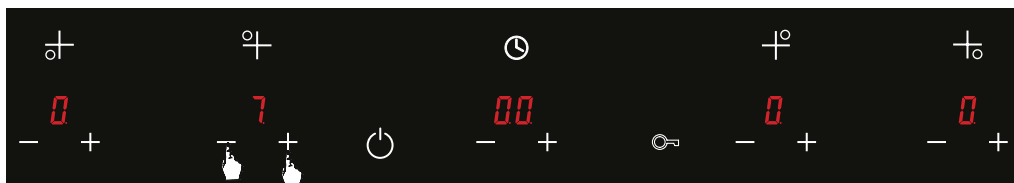

Figure 42
2. You may set the temperature level between 1 and 9 by pressing  and  keys of the relevant hob.  symbol is displayed on all other displays. Selected hob illuminates brighter. Selection setting is 10 seconds. If the power level is not set on the relevant hob, selection is cancelled automatically with a 'beep'. (See Fig. 42)